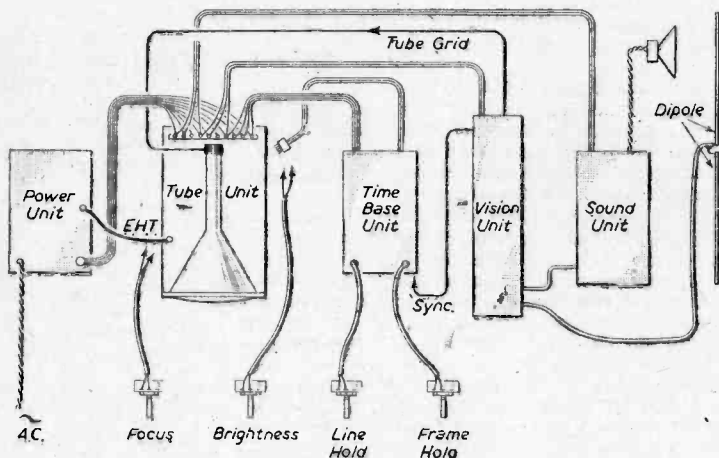

Fig. 1.—Layout of the various units for the preliminary tests.
For trial purposes a long clear bench is required and a suitable layout for the various units is shown in Fig. 1. The power unit is placed on the extreme left-hand end of the bench, the tube unit follows—spaced a few inches to avoid any excessive interaction from the mains equipment, then time-base, vision and sound chassis follow in that order. There is no need for great spacing between these latter units, a couple or so inches or enough to allow manipulation of side mounted controls being sufficient. It should be emphasised that the whole bench should be cleaned down thoroughly before this trial layout is attempted; there is nothing worse than trying to work on a bench that is elbow deep in nuts and bolts, tools, pots of glue, flux and so on.
When the chassis are set out the interwiring must be done; the ten-way lead from the power unit is soldered to the ten-way tag strip (if not already done) at the rear of the tube unit, great care being taken to ensure that the lettered coding used for H.T. and L.T. wiring throughout this series is followed. The *order* along the strip does not particularly matter, but the right connections do! The H.T. and L.T. leads from the time-base unit are then wired to the tag strip, followed by the H.T. and L.T. leads from the vision and sound chassis as Fig. 1 shows. The outputs of line and frame
**M**OVEMENT is effected by means of a small threaded rod passing into the flanged piece and controlled by a little wheel fitted to a small bracket soldered to the lower plate (see Fig. 1). This provides for a minute adjustment of the angle of the two plates and therefore the pressure applied to the flanges of the wire-reel.
The wave-winding attachment is worked by bevel gears driven by the main shaft (see Fig. 1). These were taken from ex-Government gear but if the reader finds them difficult to procure, such gears are often available in constructional toy spares. Alternatively, two small fibre pulleys, one running edge-wise on the flat periphery of the other, would undoubtedly work, as the power required is extremely small. The ratio, however,
The turns counter employed is a standard cyclometer driven by the bobbin shaft via a collar into which a pin  $\frac{1}{4}$  in. long is soldered (Fig. 1). This pin engages the wheel on the cyclometer and, since it is not a direct drive, runs without vibration. The